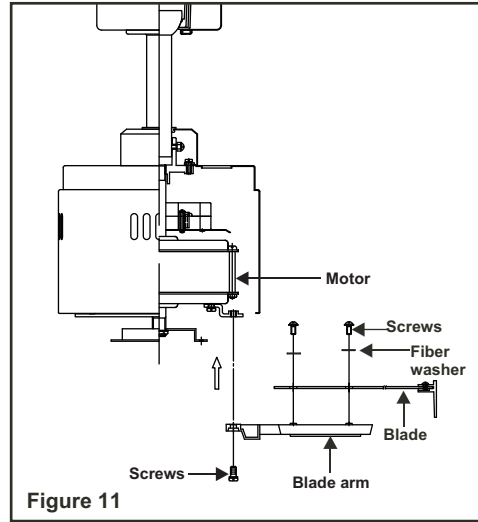

Figure 11
Step 1. Attach the blades to the blade arms using three screws and fiber washers as shown in Figure 11. Start a screw into the arm, do not tighten. Repeat for the 2 remaining screws and washers.
Step 3. Fasten the blade assembly to the motor using the motor screws provided. (Fig. 11)